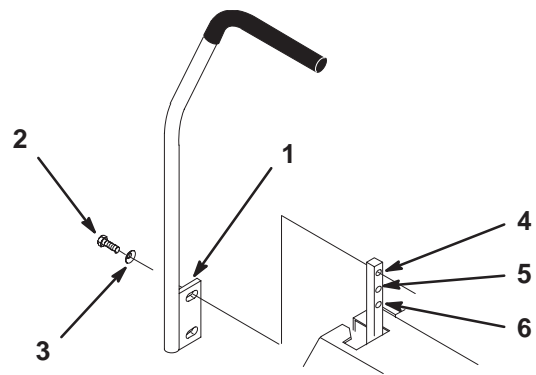

Figure 4
- Remove the 4 bolts (3/8 x 1 in.) and 4 spring washers (3/8 in.) which attach the motion control levers to the control arm shafts for shipping (Fig. 4).
- Place the levers (with the mounting plate toward the rear) on the outside of the control arm shaft and secure with 4 bolts (3/8 x 1 in.) and 4 spring washers (3/8 in.) (Fig. 4).
- Align the front/rear position of the levers, with each other, in the neutral position. Loosen hardware and adjustment by sliding/tilting the lever(s) forward or backward until properly aligned (Fig. 4).